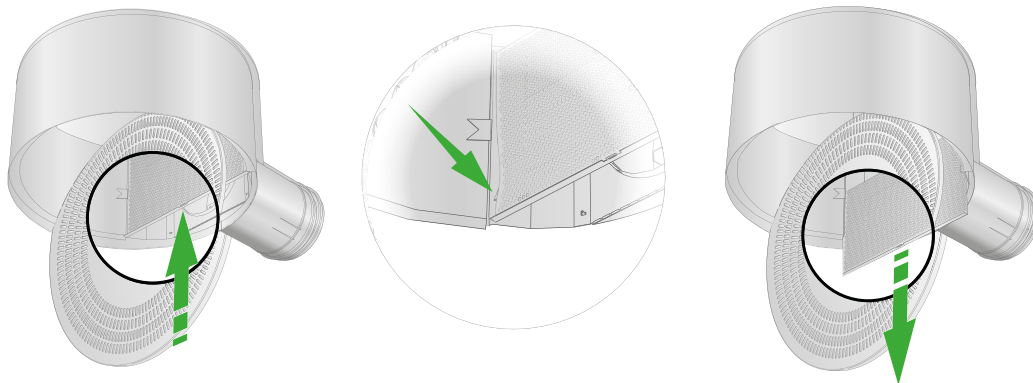

Figure 4. Dismantling the distribution plate.
- Dismantle the perforated air distribution plate located on the inlet as shown in figure 4. If necessary, the air distribution plate can be dismantled, performed in connection with installation or commissioning.